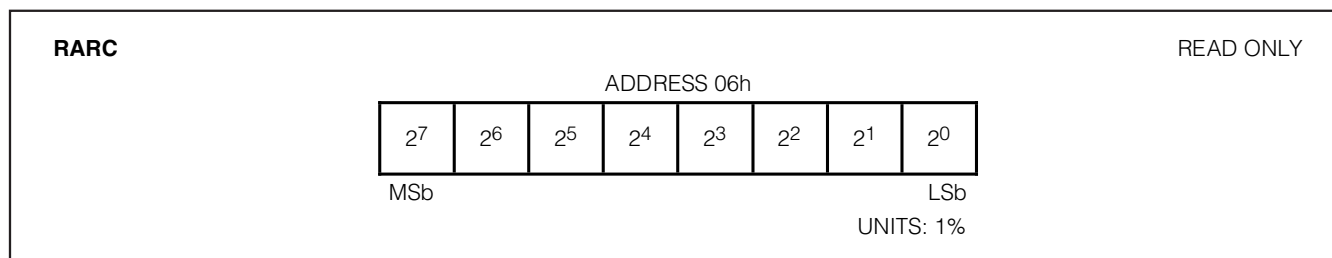

Figure 16. Remaining Active Relative Capacity Register Format
**Remaining Active Relative Capacity, RARC [%]:** RARC reports the capacity available under the current temperature conditions at the active empty discharge rate (IAE) to the active empty point in relative units of percent. RARC is 8 bits. See Figure 16.